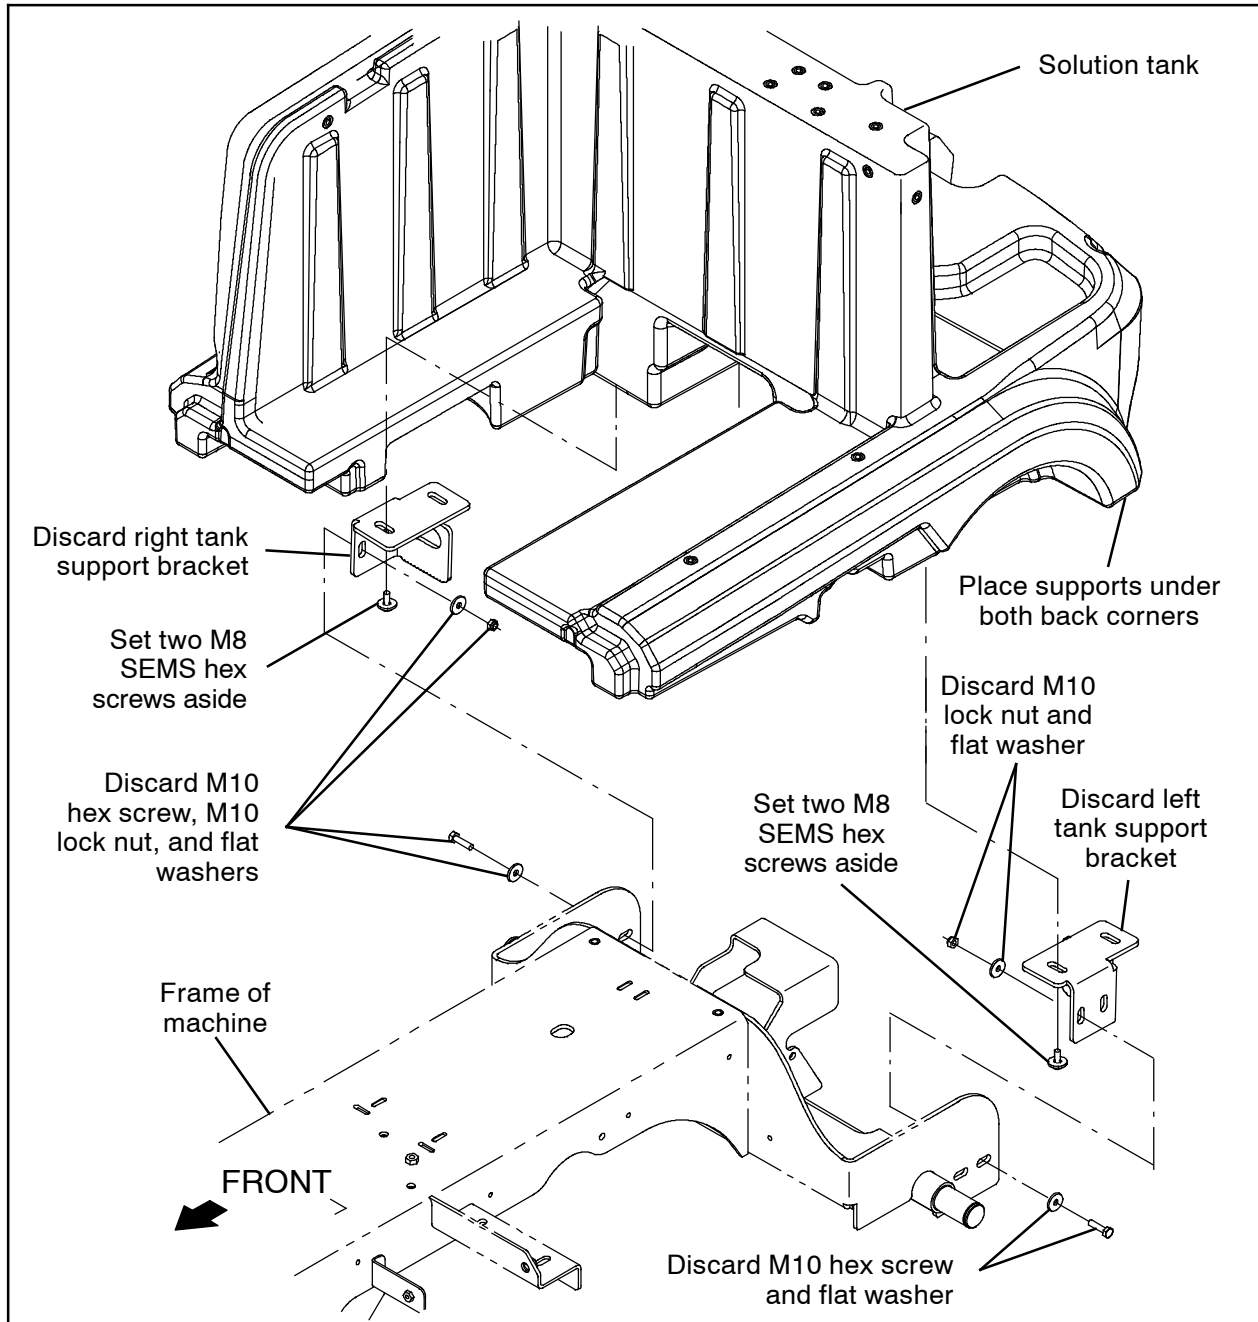
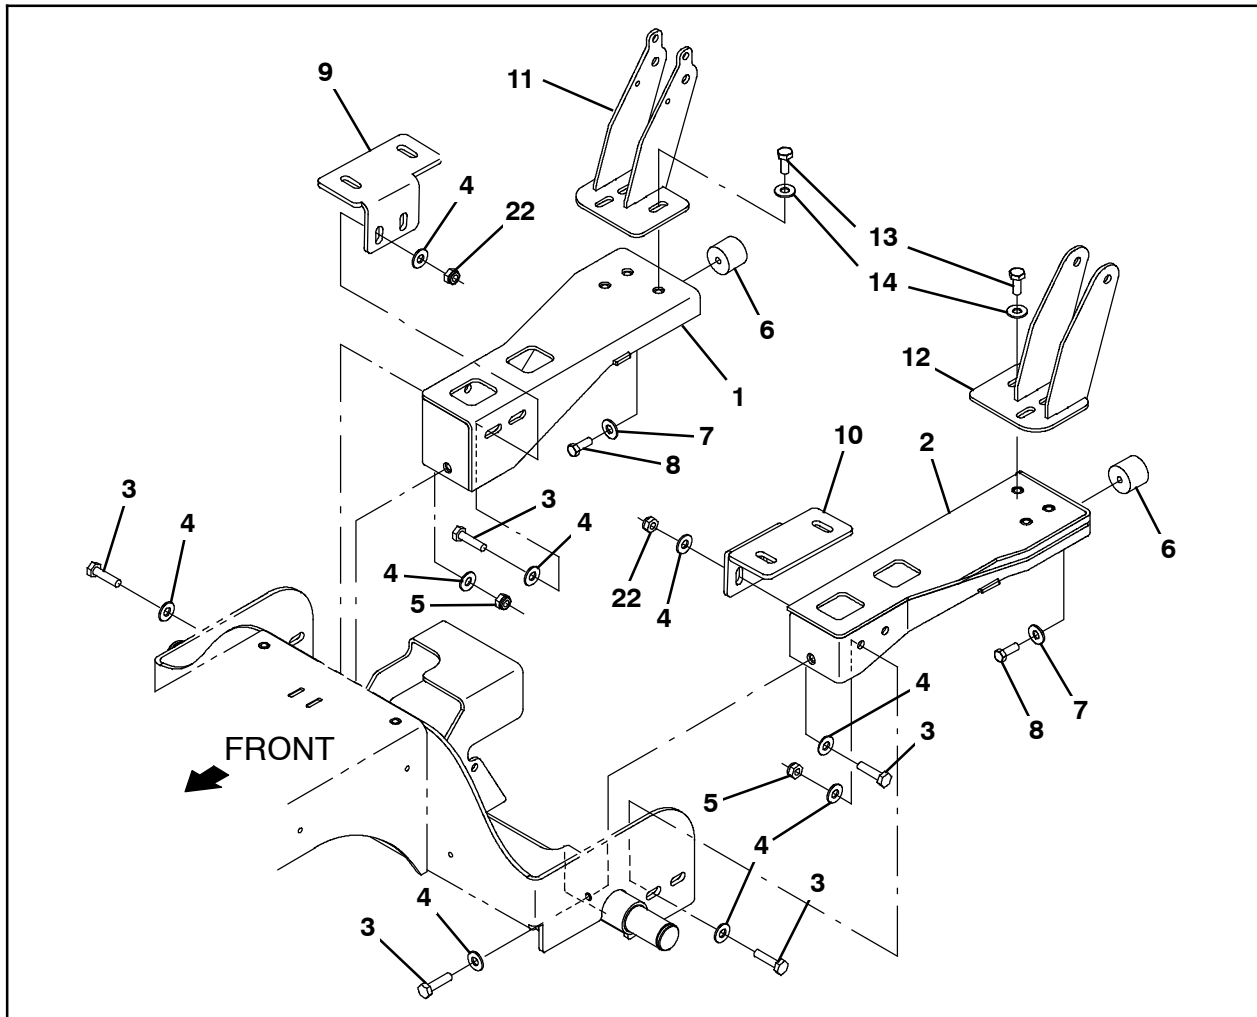

FIG. 2
FIG. 3
1. Position supports under the back corners of the solution tank to maintain height of tank on frame of machine. The back of the solution tank must be supported off the frame to remove old parts and install the rear squeegee guard kit. (Fig. 2)
2. Remove the right tank support bracket and the left tank support bracket from the machine. Set the four M8 SEMS hex screws aside. Discard both tank support brackets and the hardware used to secure the tank support brackets to the frame of the machine. (Fig. 2)
3. Use two M8 SEMS hex screws removed in Step 2 to install the right tank support bracket (9) onto the solution tank where the removed support bracket was previously located. (Fig. 2 / Fig. 3)
4. Use two M8 SEMS hex screws removed in Step 2 to install the left tank support bracket (10) onto the solution tank where the removed support bracket was previously located. (Fig. 2 / Fig. 3)
5. Use one M10 hex screw (3) and a flat washer (4) to install the right bumper channel (1) onto the frame of the machine. (Fig. 3)
6. Use two M10 hex screws (3), four flat washers (4), and two M10 lock nuts (5) to install the right bumper channel (1) onto the frame of the machine. (Fig. 3)
7. Use two M10 hex screws (3), four flat washers (4), and two M10 lock nuts (22) to install the right bumper channel (1) onto the right tank support bracket (9). (Fig. 3)
8. Use one M10 hex screw (3) and a flat washer (4) to install the left bumper channel (2) onto the frame of the machine. (Fig. 3)
9. Use two M10 hex screws (3), four flat washers (4), and two M10 lock nuts (5) to install the left bumper channel (2) onto the frame of the machine. (Fig. 3)
10. Use two M10 hex screws (3), four flat washers (4), and two M10 lock nuts (22) to install the left bumper channel (2) onto the left tank support bracket (10). (Fig. 3)
11. Use a hex screw (8) and a flat washer (7) to install a bumper (6) onto the right bumper channel (1) and left bumper channel (2). Completely tighten both hex screws. (Fig. 3)
12. Use three M10 hex screws (13) and three flat washers (14) to install the right guard support (11) onto the right bumper channel (1). (Fig. 3)
13. Use three M10 hex screws (13) and three flat washers (14) to install the left guard support (12) onto the left bumper channel (2). (Fig. 3)
14. Use two M10 hex nuts (16), two flat washers (7), and two M10 lock nuts (5) to install the guard tube (15) onto the right guard support (11) and left guard support (12). (Fig. 3)
15. Tighten all loose hardware to fully secure the rear squeegee protector kit to the machine. (Fig. 2 / Fig. 3)